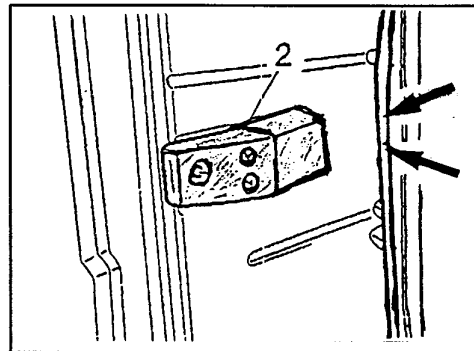

Figure 9
9. After the adjustment, open the sliding door carefully until the lower roller has just passed the pre-stop at the lower guide rail. In this position, the new middle rubber stopper (2) has to touch the edges of the C - pillar. (Figure 9 arrows). If necessary, adjust the rubber stopper and tighten the three 6.0 mm screws to 12.0 Nm.